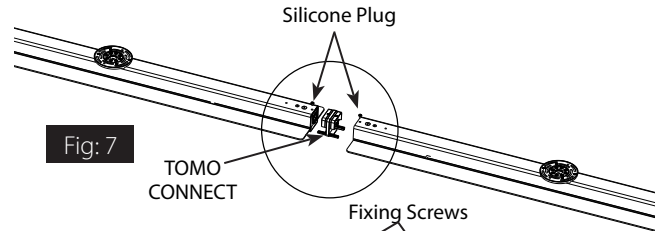
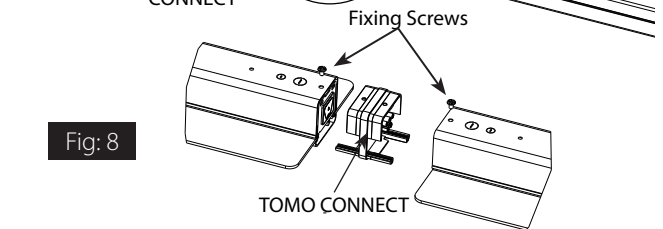

Fig: 7
Fig: 8
1. For continuous run, remove fixture **End Caps** (Fig. 7). Pop out **Silicone Plugs**, push Fixtures together using **TOMO CONNECT** (ordered separately) between fixtures for quick connect installation (Fig. 8). **TOMO CONNECT** is provided with (2) **Fixing Screws**. Install **Fixing Screws** in **Silicone Plug** points. Only (1) one **Fixture** needs to be electrically hard wired from above (Fig. 9).